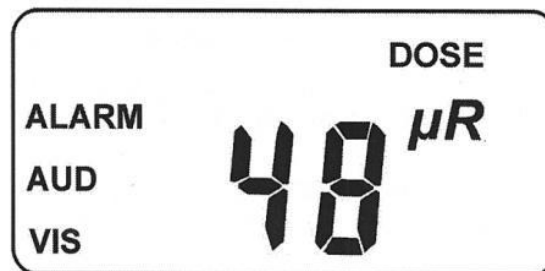

Figure 3 – The Dose Display
- Press the DOSE key to switch to Dose Mode. The Dose Mode should appear, with the word *DOSE* shown at the top left of the screen (Figure 3)